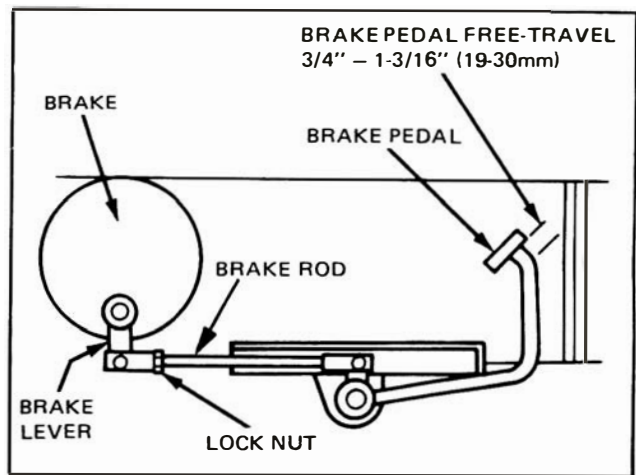

Figure 48 — Brake Pedal Adjustment
2. Loosen the lock-nut, Figure 48, and rotate the brake rod as necessary until there is 3/4-1-3/16 inch (19-30 mm) of pedal free play. Lengthening the rod increases free play while shortening the rod decreases free play.